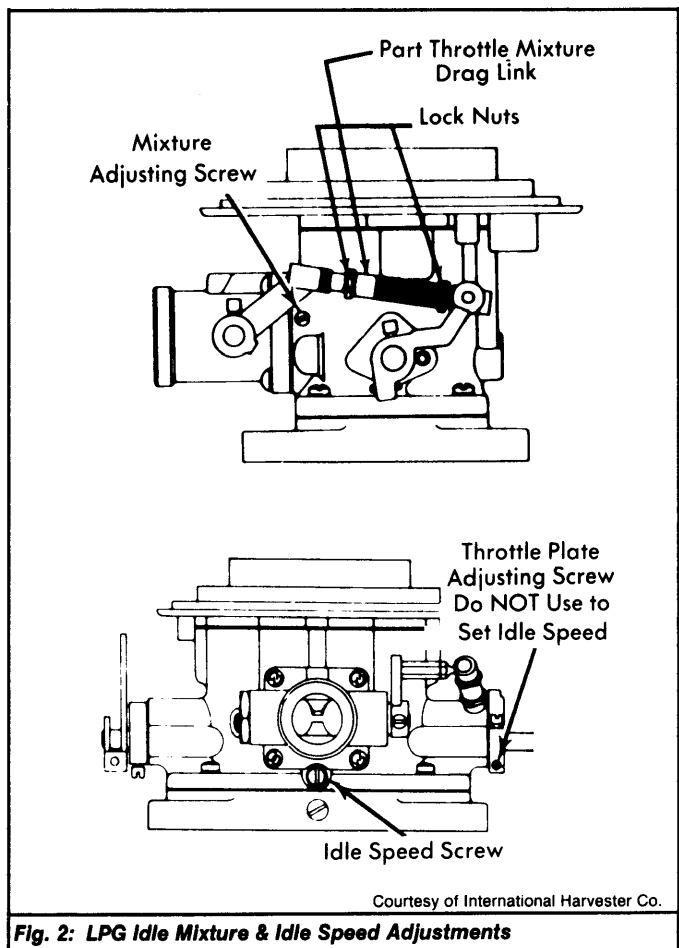

Fig. 2: LPG Idle Mixture & Idle Speed Adjustments
4) Slowly close idle mixture adjusting screw until seated. Adjust part throttle air/fuel mixture drag link to obtain a .25 percent CO reading at 100 RPM below specified idle speed. See Fig. 2.